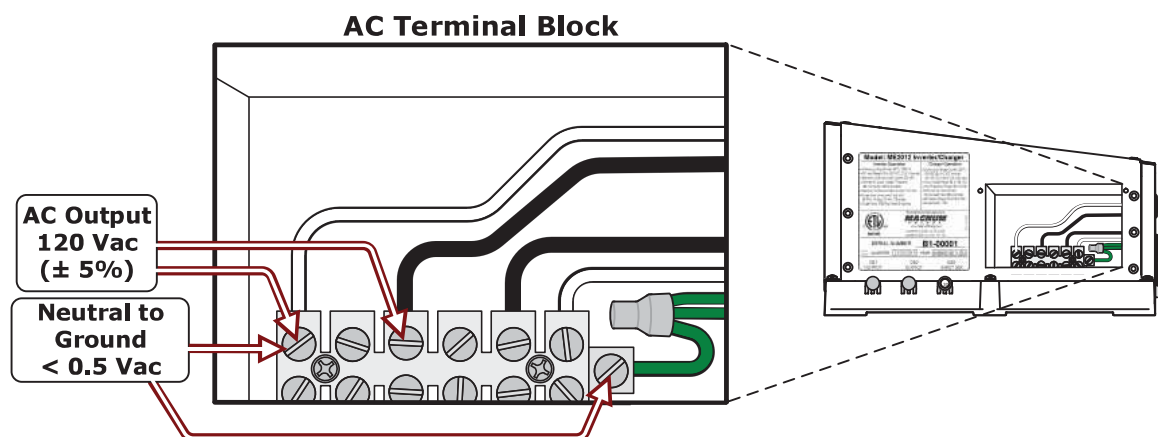

Figure 2-18, AC Voltage Checks
5. Check the AC output voltage of the inverter by connecting an AC voltmeter to the output terminals (see Figure 2-18) and verify the correct output voltages.